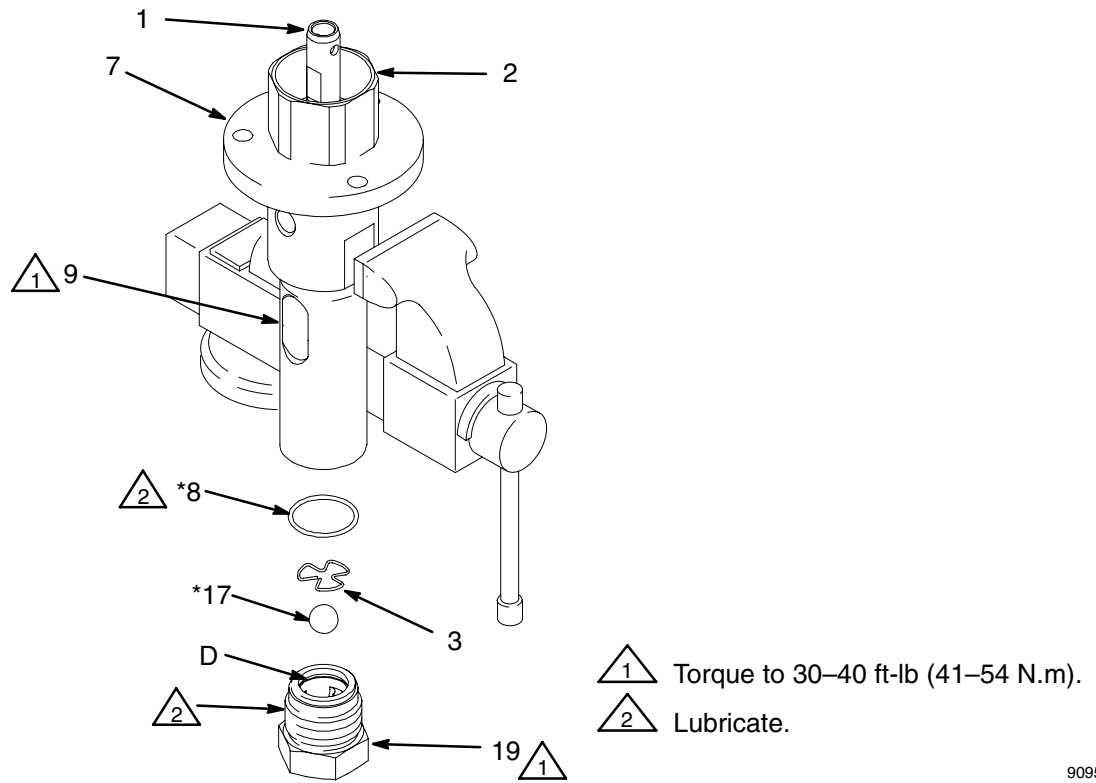

Fig. 4
1. Fig. 4. Place outlet housing (7) in vise.
2. Apply adjustable wrench to flats of intake valve (19). Unscrew intake valve from cylinder (9). Remove seal (8) from intake valve. Remove ball stop (3) and ball (17). Inspect ball and seat (D) of intake valve for wear or damage.
3. Unscrew cylinder (9). Gently pull cylinder straight out of outlet housing. Displacement rod (1) and piston assembly may come out with cylinder. If not, pull displacement rod out.
- b. Fig. 4. Remove seal (8) from cylinder (9). Shine light into cylinder to inspect inner surface for scoring or wear.